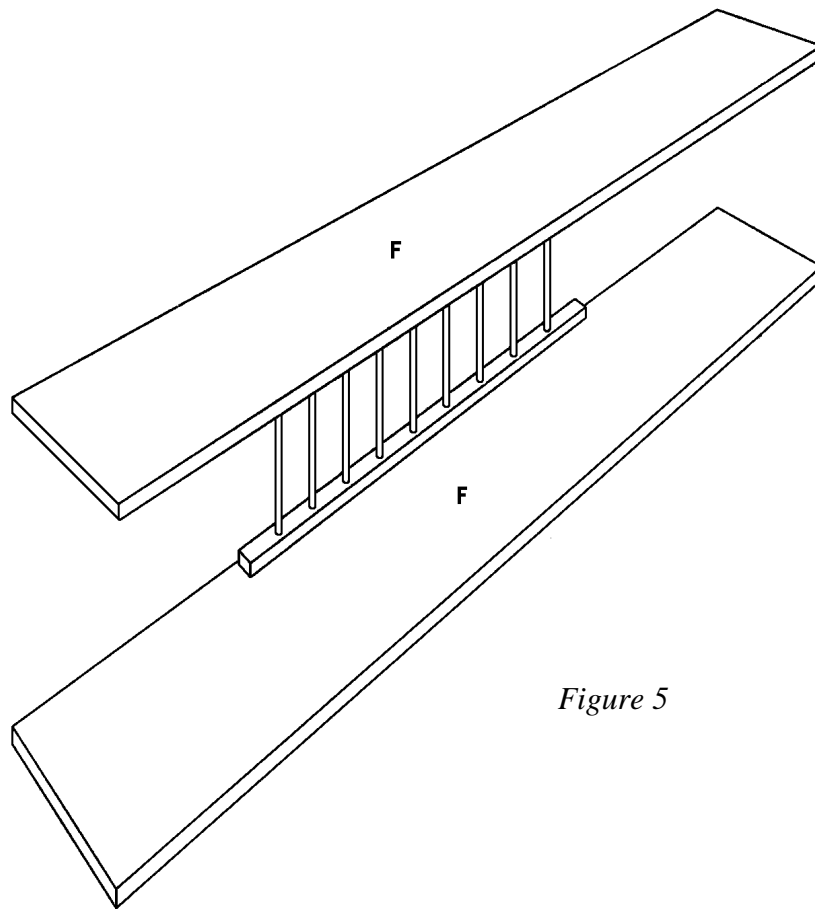

Figure 5
1. Place the two Inner Top/Bottoms (F) on edge on a level surface, parallel to each other and 14 inches apart. Fit one rack/rod assembly (centered lengthwise) between the two Inner Top/Bottoms (F), as shown in *Figure 5*. Place one shelf assembly on each end of the centered rack/rod assembly. Apply glue to the meeting surfaces, clamp the assembly together to hold it in position, and screw through the Inner Verticals (C) into the ends of the rack/rod assemblies, using a 1-5/8" screw on each joint.
2. Apply glue to the meeting surfaces, and screw through the Inner Top/Bottoms (F) into the edge of each Inner Vertical (C), using three 1-5/8" screws on each joint.
3. Apply glue to the meeting surfaces, and fit the Shelf Supports (E) between the Inner Top/Bottoms (F), and into the cutout corners of the Shelves (D). Screw through the Inner Top/Bottoms (F) into the ends of each Shelf Support (E), using a 1-5/8" screw on each joint.